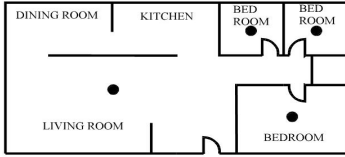
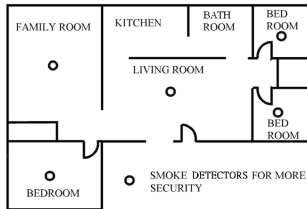

Figure 1: ONE SEPARATE SMOKE DETECTOR IN EVERY BEDROOM AND ONE SMOKE ALARM IN THE FLOOR AS A MINIMUM PROTECTION
Figure 2: ONE SEPARATE SMOKE DETECTOR IN EVERY ROOM, EXCEPT KITCHEN AND BATHROOM FOR MORE SECURITY
- Install one separate smoke detector in every bedroom and one smoke detector in the floor as a minimum protection. Install one separate smoke detector in every room, except kitchen and bathroom for more security, as shown in **Figure 1** and **Figure 2**.